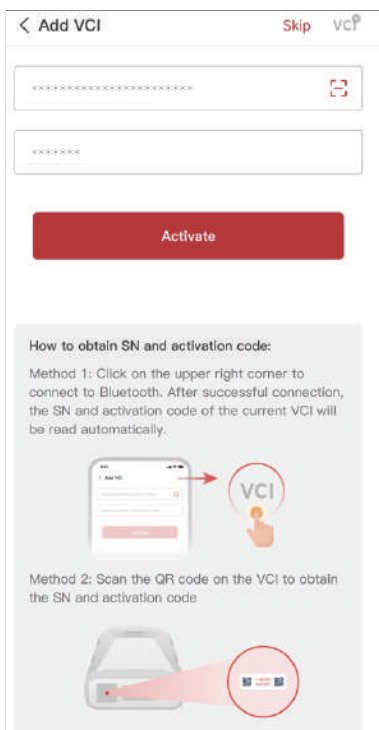

Figure 3-8
- ① Tap **Me > VCI Management > +**.
- ② To get the serial number and activation code, please scan the QR code on the product. Alternatively, tap the **VCI** icon at the top right of the activation screen to establish a Bluetooth connection (see Figure 3-8). Once the Bluetooth connection between the DS200 and your phone is established, the serial number and activation code will be automatically obtained.)